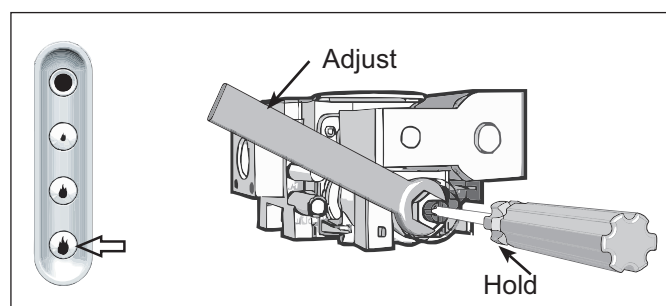

FIG 32
3. Switch the control buttons to 'High Flame' position. Wait for heater to switch to 'BOOST' setting (time delay on start up). Retain screwdriver in position and using a spanner adjust the outer nut on the control to give a high pressure reading (refer to specification tables on page 8 & 9). **(Turn clockwise to increase pressure and anticlockwise to decrease pressure)**. Refer **FIG 32**.